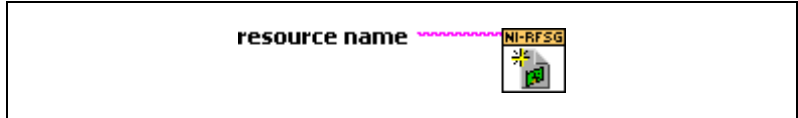

Figure 13. Resource Name Terminal on niRFSG Initialize VI
8. Hover the cursor over the **resource name** terminal on the niRFSG Initialize VI and right-click. Select **Create»Control** to create a front panel control where you specify the NI RF signal generator device name. The **resource name** terminal is shown in Figure 13.